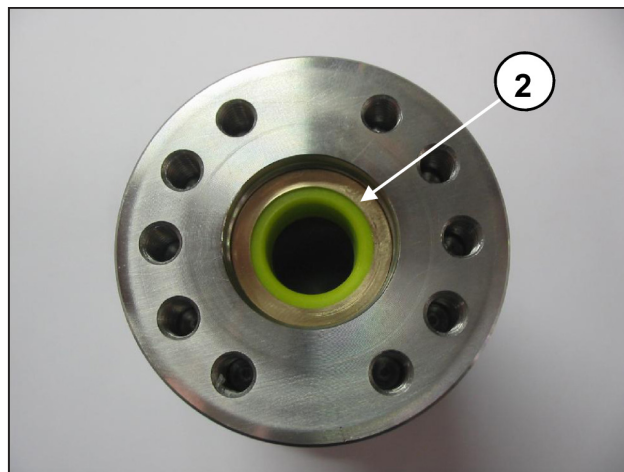
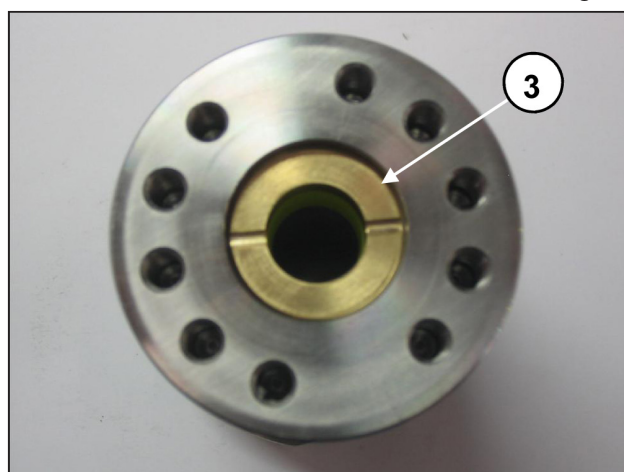
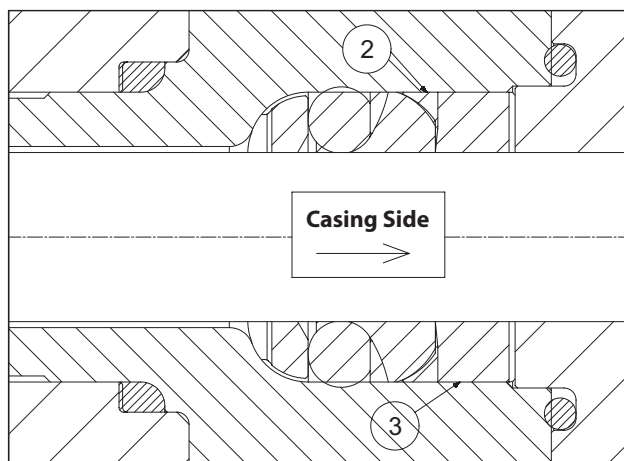

Fig. 42
Fig. 43
Fig. 44
- Insert the anti-extrusion ring ② and the gasket bush ③ arranged as shown in Fig. 42, Fig. 43, Fig. 44.
The gasket bush ③ must be introduced into the support with the outlets facing outwards (casing side) as shown in Fig. 43 and in Fig. 44.